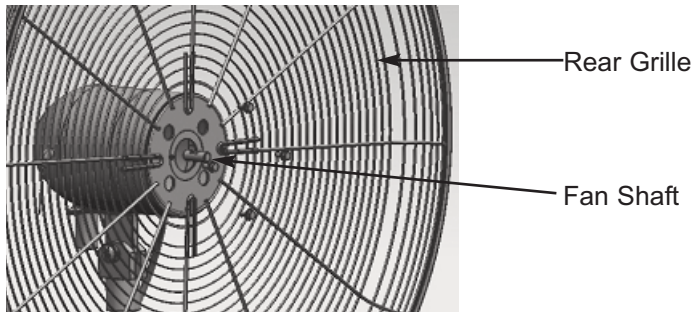

Figure 2: Attaching Rear Grille to Shaft - Pedestal Fan
4. Remove the screws on the Motor and attach the Rear Grille onto groove in motor and replace screws See Fig. 2).